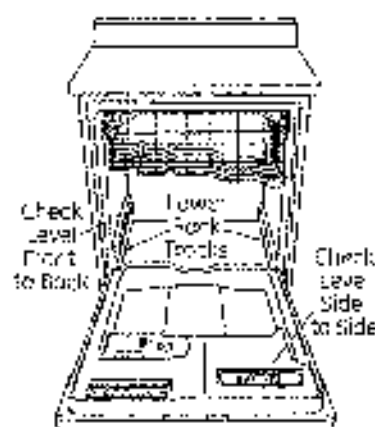

Figure 6
- Remove the lower dish rack and place a level on the door and lower rack tracks as shown in Figure 6.